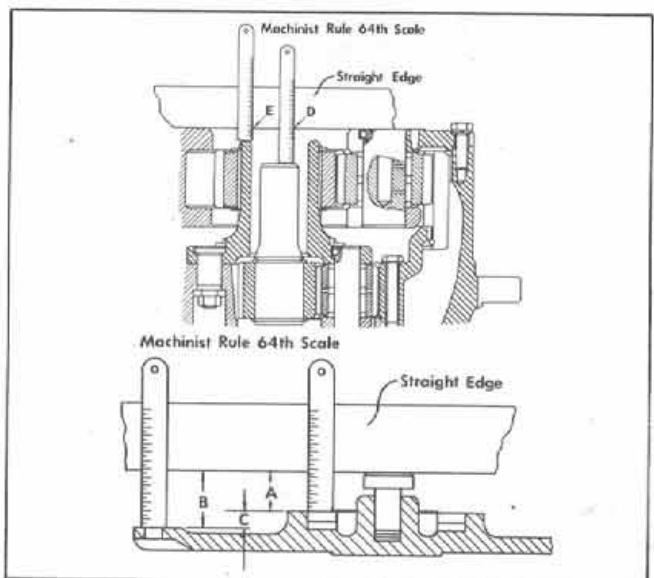

figure 36
**Step 67** To check the clearance between the planetary axle and the thrust washer in the cover measure the distances in fig. 36 and use the following formula to determine the clearance. Measure the distances with a straight edge and machinists rule. Place the straight edge and rule as illustrated. Place new gasket on cover when taking cover measurements.